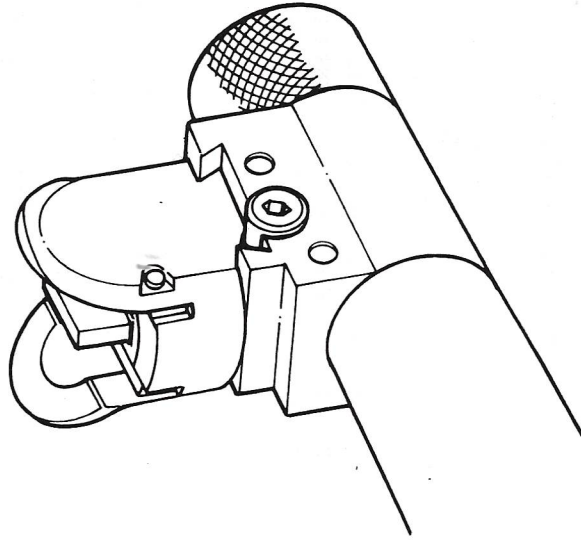

FIG. 6. FORESIGHT
- 3.6.1 Foresight (Fig 6) A blade type foresight is fitted which is adjustable for elevation and windage and is protected by integral 'ears'.